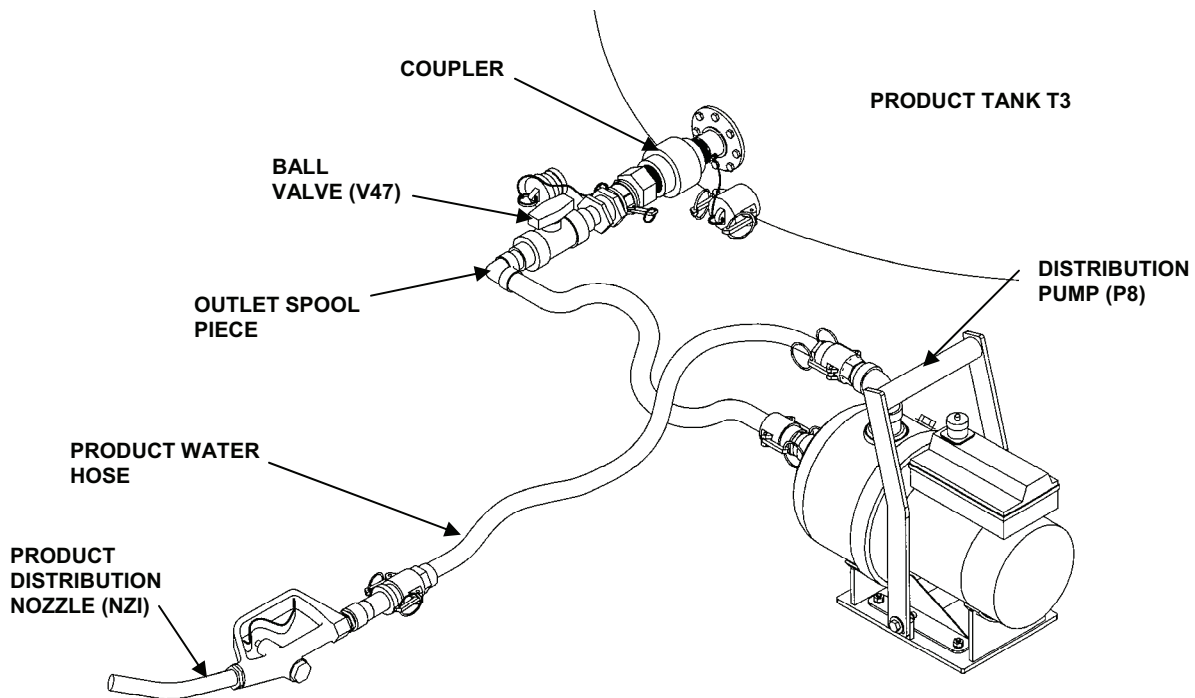

Figure 1. Product Tank Distribution Setup.
2. Make sure the product tank outlet valve (V47) is open. See Figure 1.